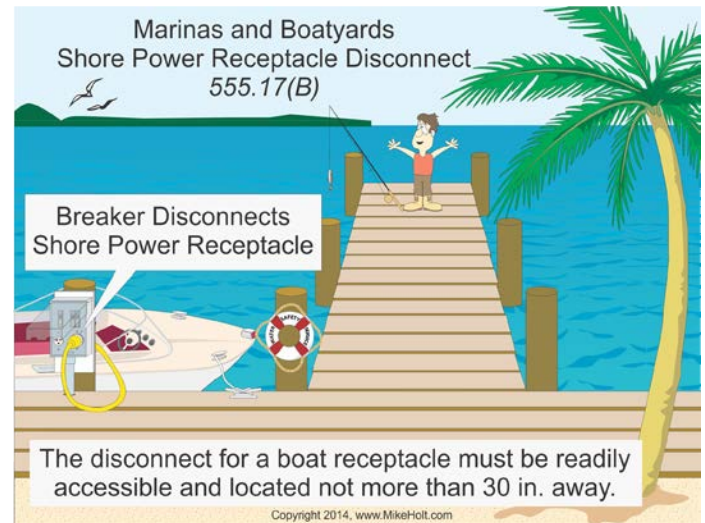

Figure 555-15
**(B) Location.** The disconnecting means for shore power receptacles must be readily accessible and located not more than 30 in. from the receptacle it controls. Circuit breakers or switches located in marine power outlets can be used for the boat receptacle disconnecting means. Figure 555-15